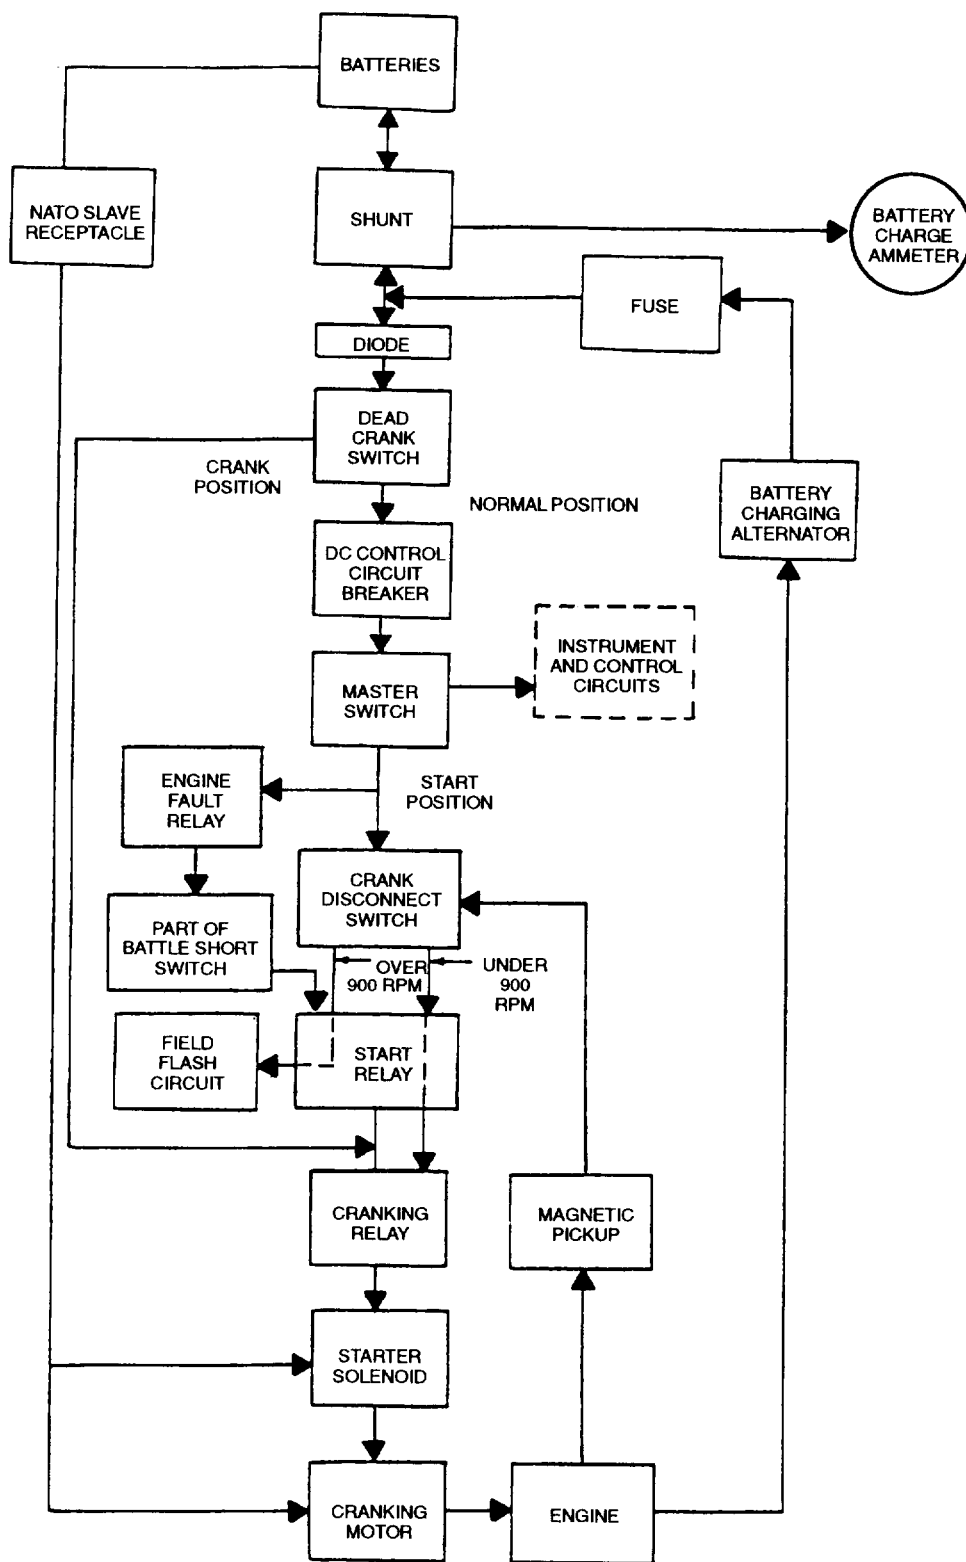

FIGURE 1-9. Engine Starting System
1.12.8.1.1 Engine starting is accomplished primarily with two 12-volt batteries, connected in series to provide 24 VDC power, and a starter (FIGURE 1-9). The starter includes a cranking motor and a solenoid. To permit engine starting, the DC CONTROL POWER circuit breaker must be pushed in, the DEAD CRANK switch must be in the NORMAL position, and the BATTLE SHORT switch must be in the OFF position. In addition, any ENGINE SHUTDOWN fault previously registered on the malfunction indicator panel must have been corrected and the malfunction indicator panel must have been reset. When the MASTER SWITCH is then placed in the START position, the starting circuits supply 24 VDC power to the starter. As the engine accelerates to approximately 900 rpm, the starting circuits disconnect power from the starter.